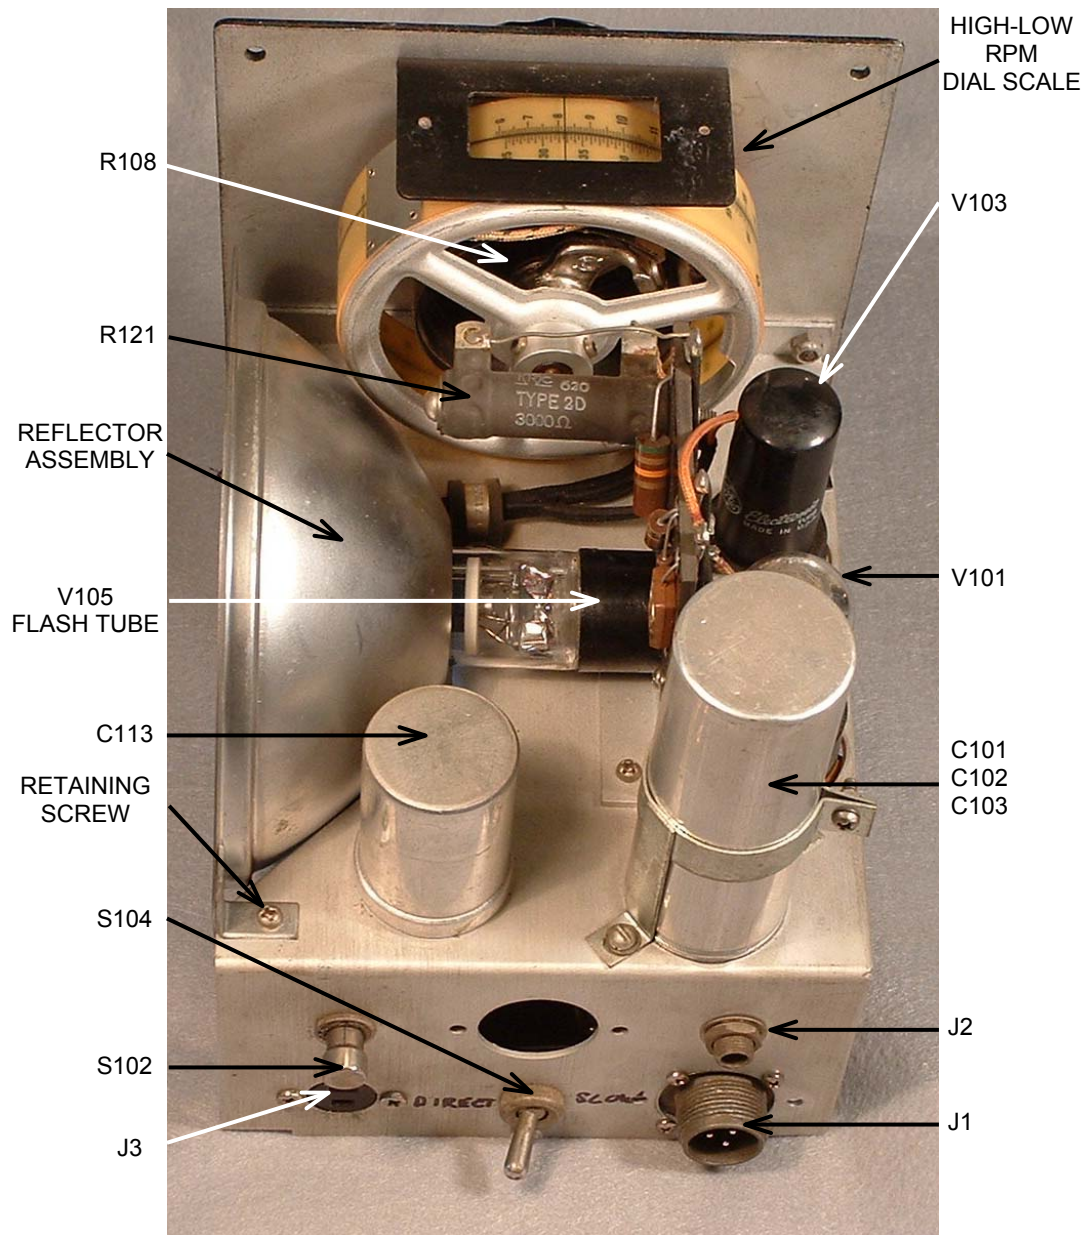

Figure 4-9. TS-805C/U Stroboscope Top View.
(4) Remove the flasher tube (V105) from its socket (fig. 4-9).
### **4-12. Reflector Assembly Replacement (fig. 4-9)**
(1) Remove the flasher tube (para. 4-10a).
(2) Remove the two reflector assembly retaining screws (fig. 4-9).
#### **4-14. Dial-Scale Control Assembly Replacement (fig. 4-9, 4-11 and 4-13).**
- (1) Remove the dial lamp (para. 4-11a).
- (2) Tag and disconnect three wires from dial-scale control R108 (fig. 4-9).